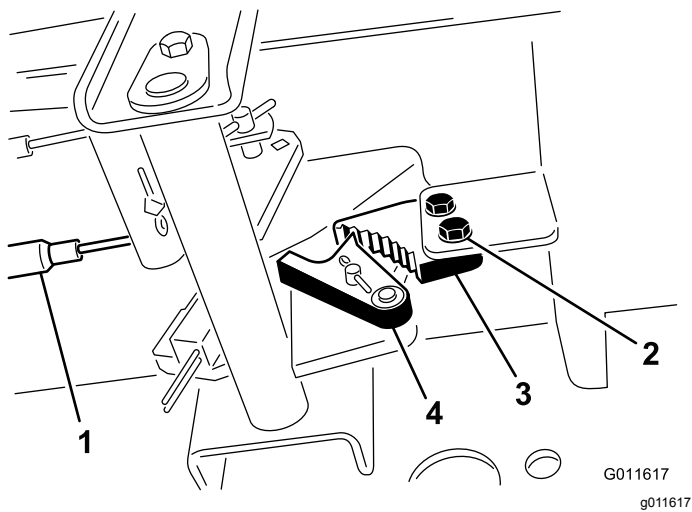

Figure 47
1. Loosen the 2 screws securing the parking-brake pawl to the frame (Figure 47).
2. Press the parking brake pedal forward until the brake detent completely engages on the brake pawl (Figure 47).